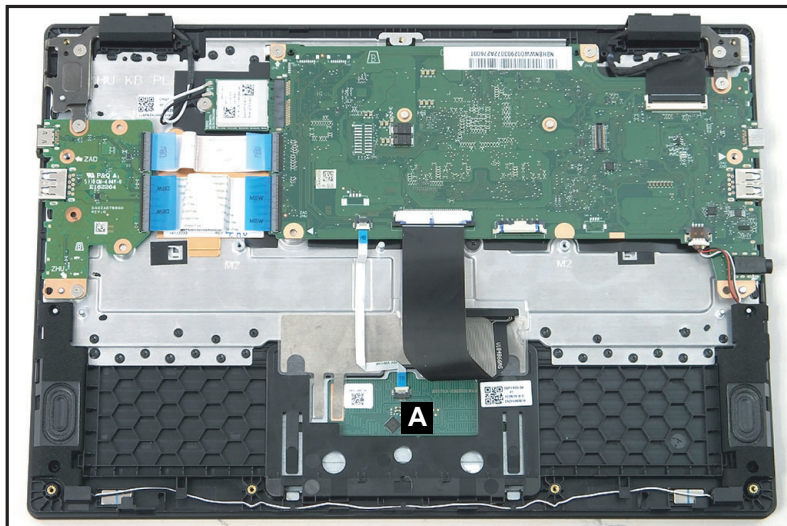

Figure 1-18. Touchpad Module Removal
1. Find the touchpad module (A) on the top assembly (Figure 1-18).